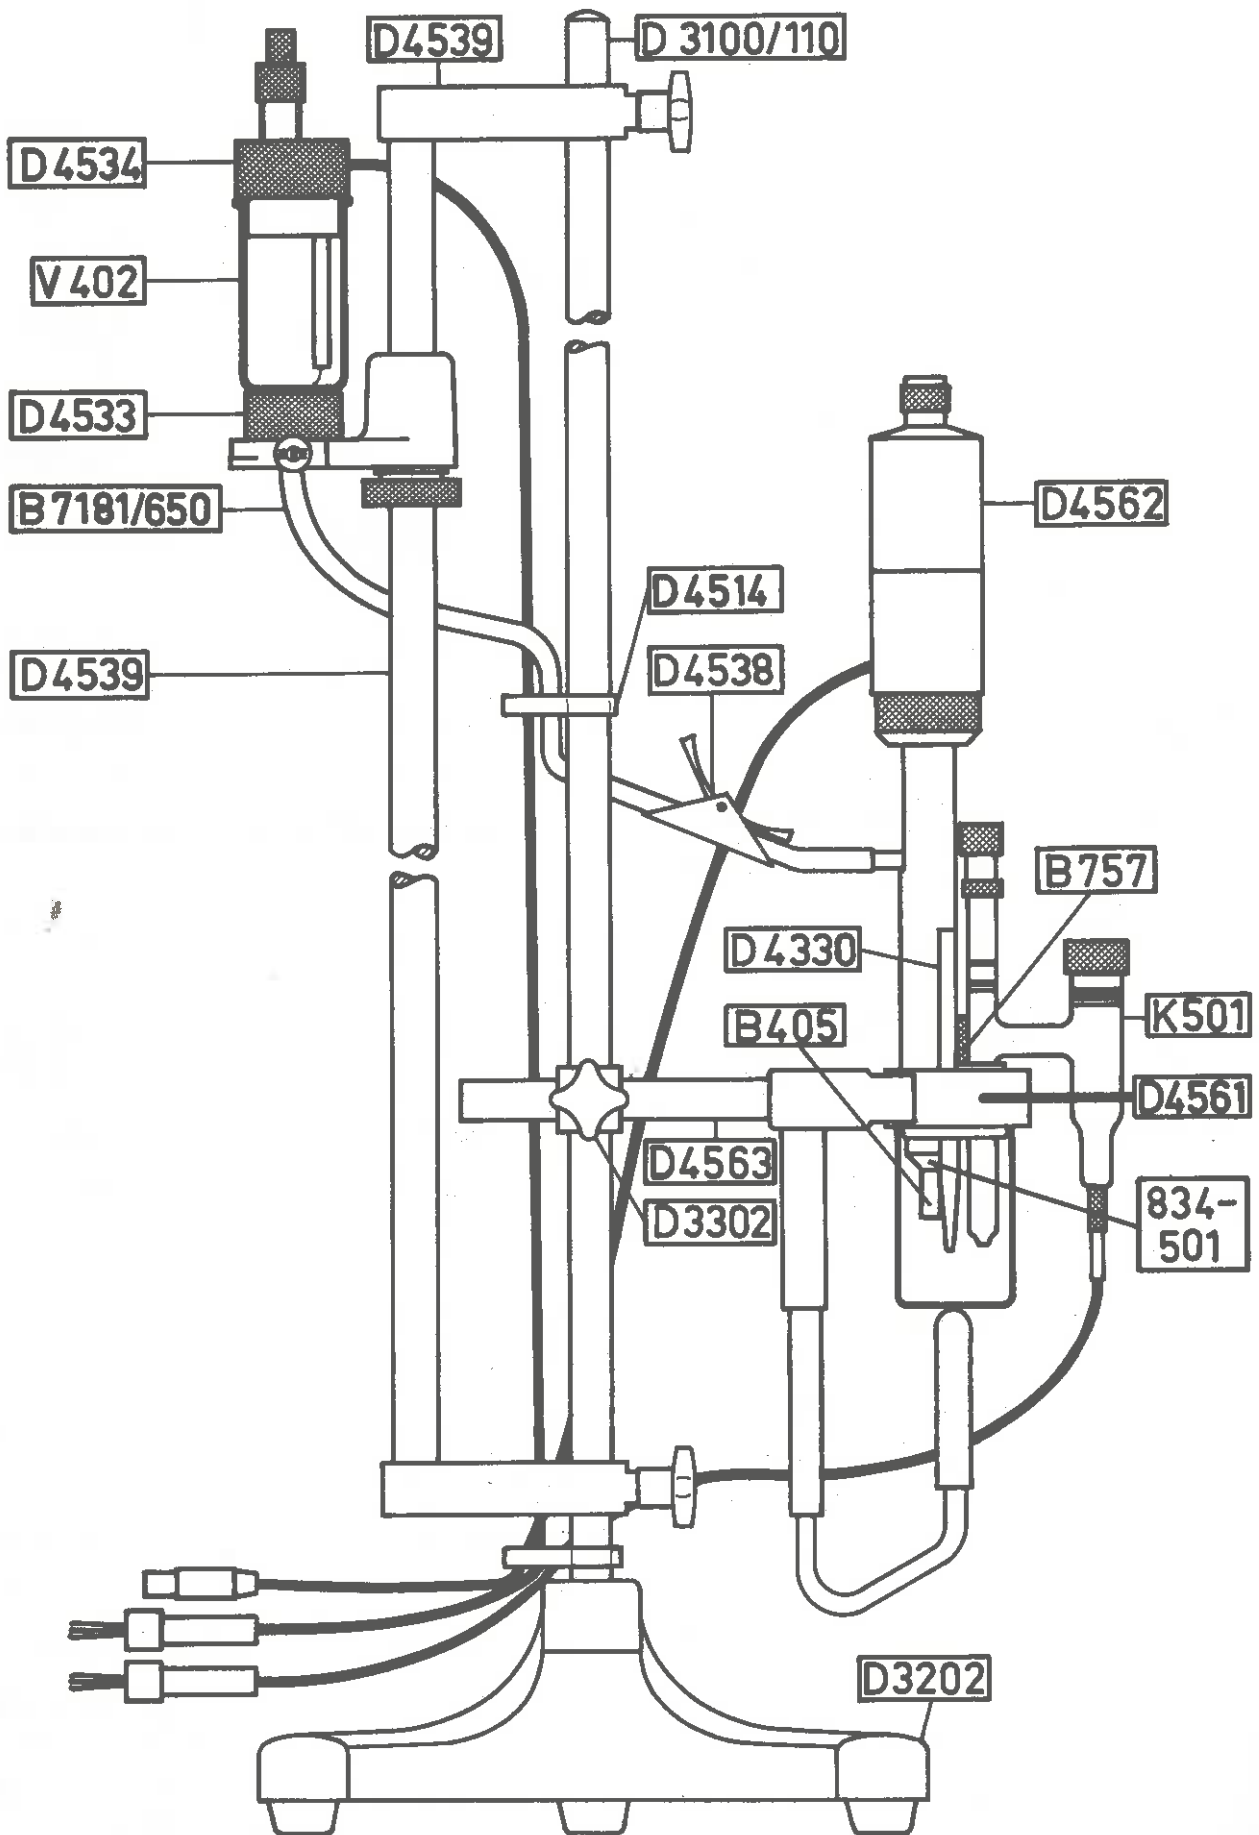

Fig. 7. Drawing of the Electrode Assembly, type E65.
- (a) Mount the stand, D3100/110 in the hole in the wide arm of the C-shaped base D3202. (See Fig.7).
- (1) Mount the electrode setup as shown in the drawing (Fig. 7). Follow the above instructions.
- (2) Make sure that the mercury reservoir is filled with mercury and that it is ready for operation. (Screw the syringe on top of the reservoir a little upwards - an air bubble should pass through the mercury).
- (3) Make sure that the calomel electrode is ready for operation (completely filled with saturated KCl solution) and renew the liquid junction in the salt bridge by pressing a few drops of KCl solution out of it.
- (4) Pour about 20 ml of the solution to be analyzed into the vessel, V518, and place it below the electrode head.
- (5) Bubble with nitrogen gas for 10-15 minutes, if the sample is to be deoxygenated.